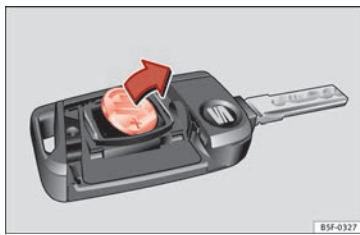

Fig. 117 Vehicle key: removing the battery.
- Extract the battery from the compartment using a suitable thin object **»** **Fig. 117**.
- Place the new battery in the compartment as shown **»** **Fig. 117**, pressing in the opposite direction to that shown by the arrow **»** ①.